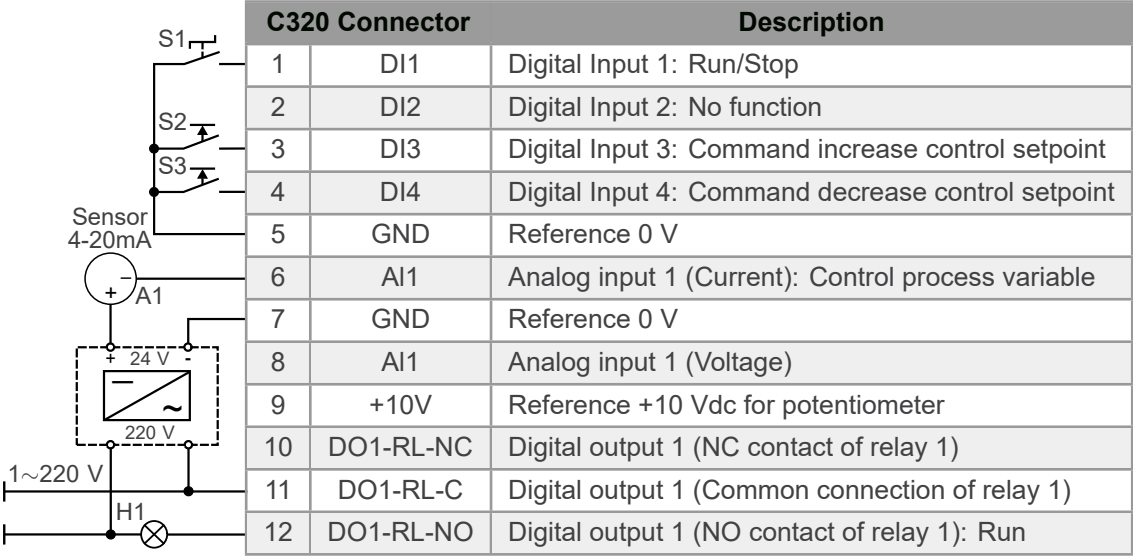

Figure 4.6: Signals on the C320 control card connector for control setpoint via electronic potentiometer (EP)
The Figure 4.6 at page 4-6 presents the control connections (analog inputs/outputs, digital inputs/outputs) that must be made to the connector of the C320 control card of the CFW320 frequency inverter to have the control setpoint adjusted via electronic potentiometer (EP).